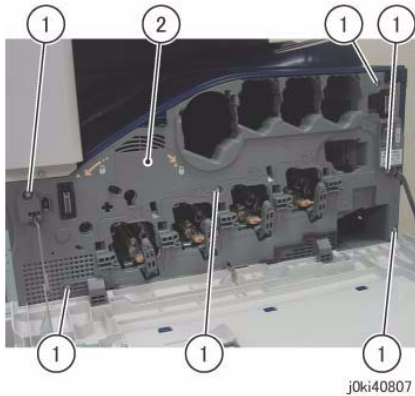

Figure 2 Remove the Front and Inner Covers together
6. Remove the Front Cover together with the Inner Cover. (Figure 2)